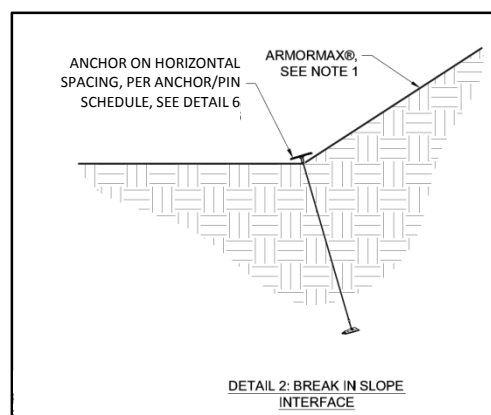

Figure 15: Break in Slope Interface
- At the break in slope interface towards the channel bed, it is suggested that anchors be installed on 4 ft (1.2 m) centers (Figure 15).